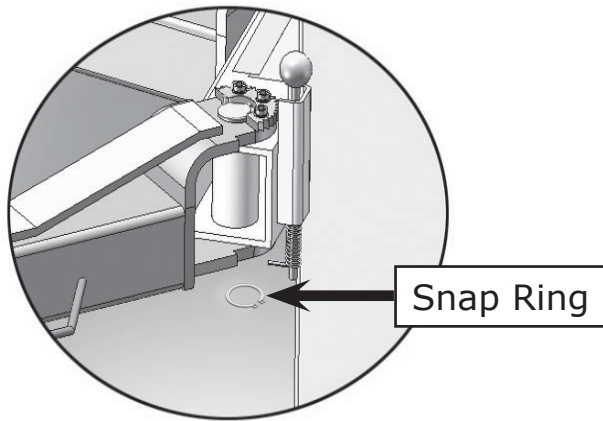

Fig. 23
1. Install the lifting arms (See Fig. 23).